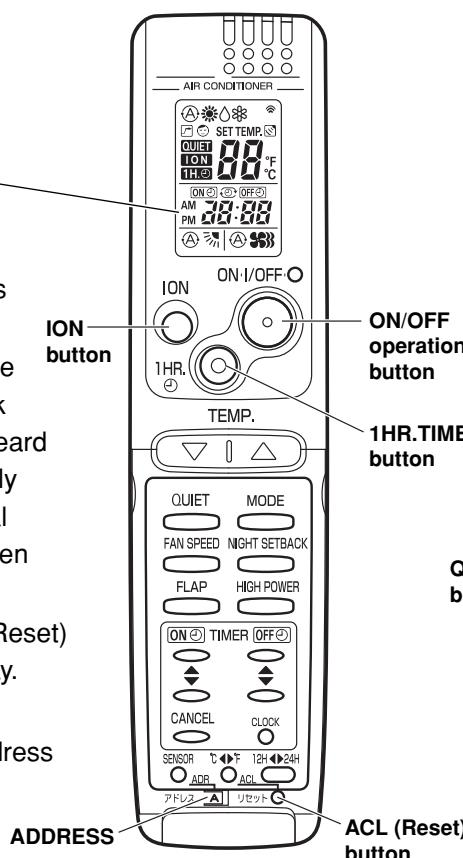

Fig. 64a
Press this button 2 times to change the display to "oP-7" (Address setting). (Fig. 64a or 64b)
- (5) "oP-7" has now been selected for address setting.
- (6) Press the ON/OFF operation button on the remote controller. (Fig. 64a or 64b) Check that the "beep" signal-received sound is heard from the second indoor unit (approximately 5 times). The sound you hear is the signal that the remote controller address has been changed.
- (7) Finally press the remote controller ACL (Reset) button to cancel the blinking "oP-7" display. (Fig. 64a or 64b)